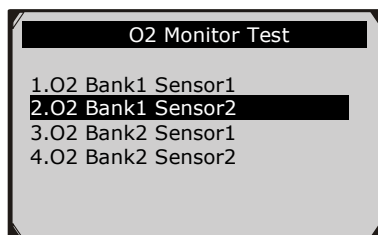

Figure 6-23
- 3) Use the **UP/DOWN** scroll button to select O2 sensor from **O2 Monitor Test** menu and press **OK** button. (Figure 6-23)